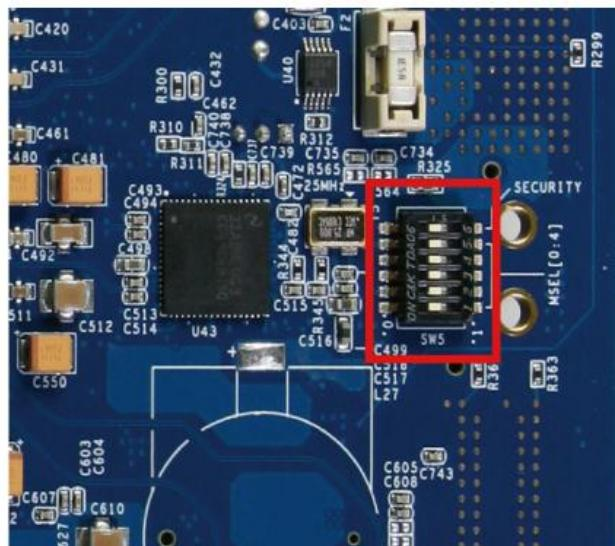

Figure 4-1 MSEL[0:4] set to “00000”
2. Set the FPGA configuration mode to FPPx16 mode by setting **SW5** MSEL[0:4] as 00000 as shown in Figure 4-1.